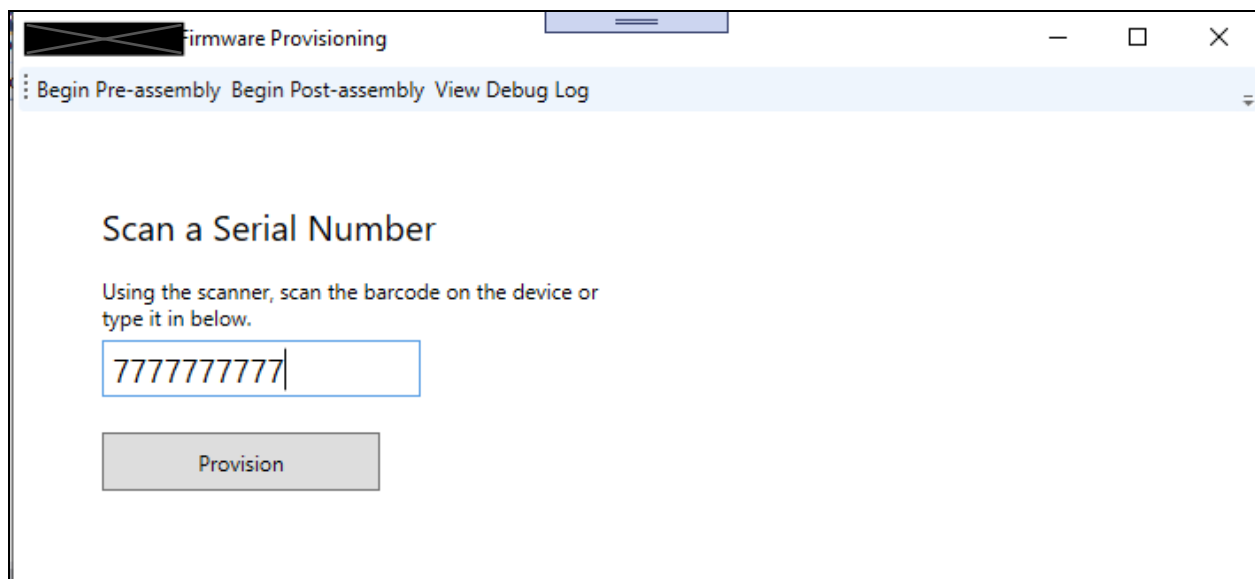

Fig. 4
1. The technician must scan or type in a serial number. It must be 10 digits in length and should be the number from the board. (Fig. 4)